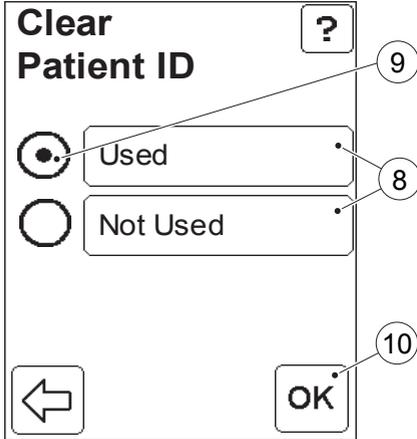

FIGURE 4-60
c) Enter the min. No. of characters (4) via the Digit buttons (6). Press the Confirm button (7).
d) Enter the max. No. of characters (5) via the Digit buttons (6). Press the Confirm button (7). *FIGURE 4-60*, will be displayed.